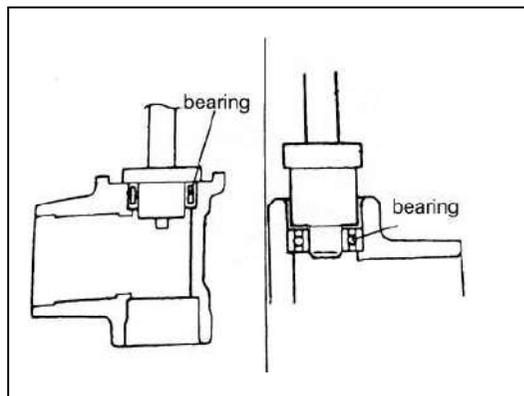

Fig 17-34
2) NEEDLE BEARING/LOWER BEARING INSTALLATION(See fig 17-34)